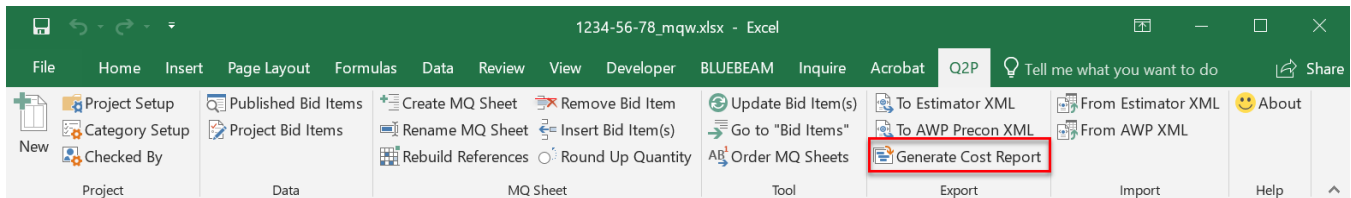
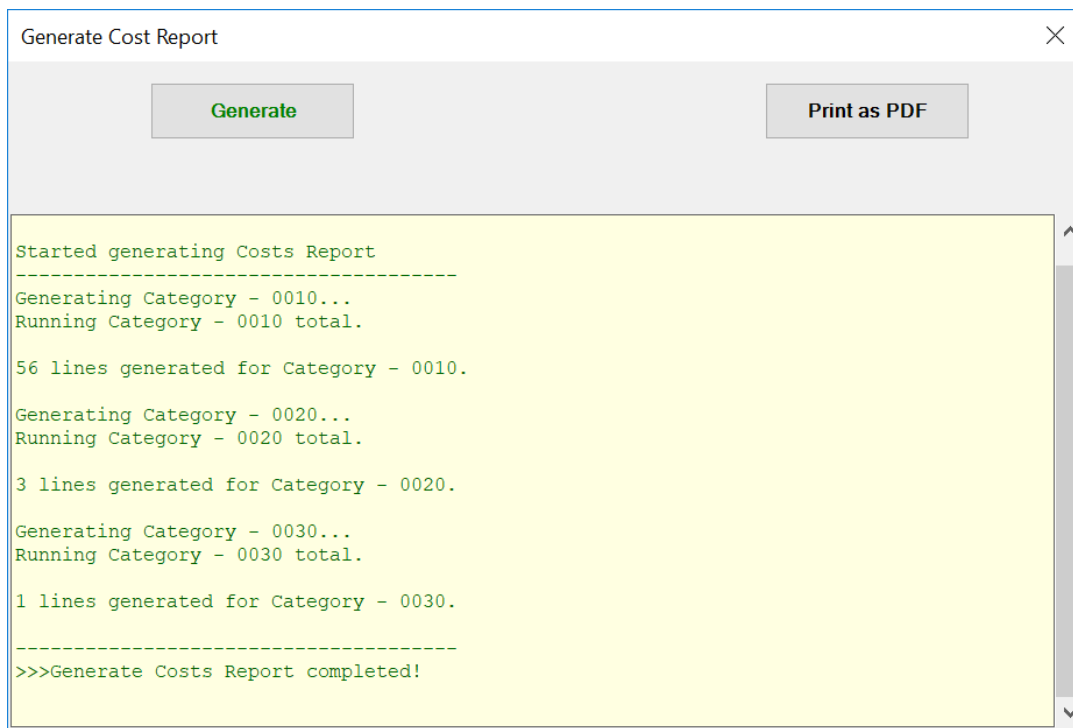

Figure 14.1 "Generate Cost Report" command.
Figure 14.2 Generate Cost Report window after report generation is complete.
2. Select **Q2P > Export > Generate Cost Report** (Figure 14.1) to generate and print (Figure 14.2) the project cost report which displays the estimate totals by category (Figure 14.3).